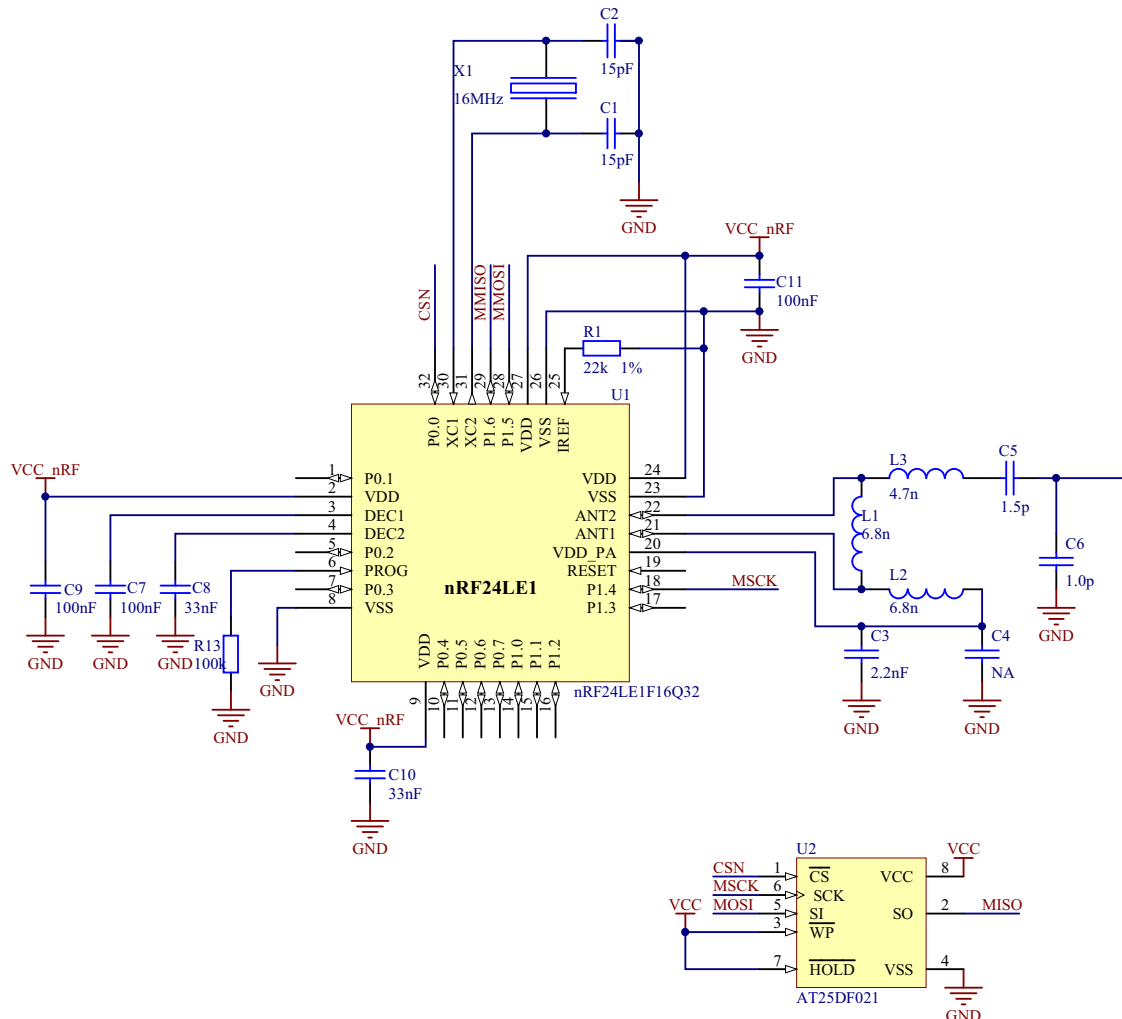

Figure 7. Schematic for nRF24LE1 with flash SPI
Figure 7. shows a possible connection between the nRF24LE1 32-pin and the AT25DF021. The WP and HOLD signals are set high, disabling these features. One or both of these can be connected to the nRF24LE1 to allow them to be controlled through the software.
- The flash device is connected as described in Figure 7. on page 9.